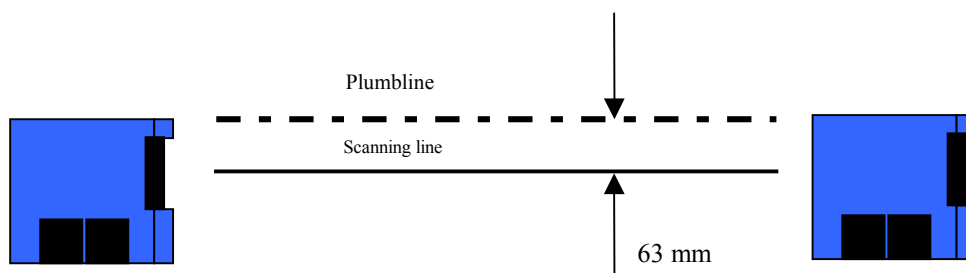

Fig. 8-3 View of the LMS units from above with the plumb-line and scanning line.
2. The LMS are mounted so that they both face in the same direction (see Fig. 8-3).